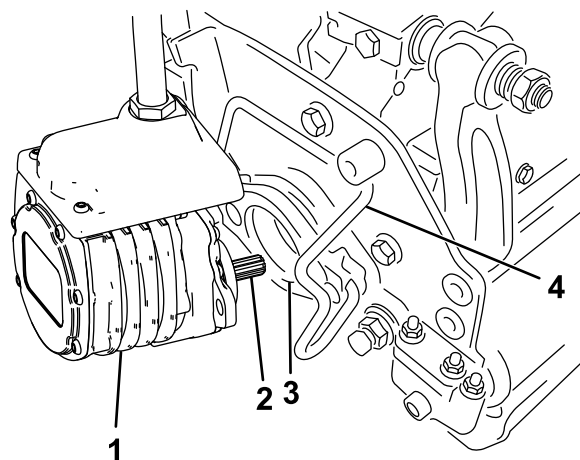

Figure 55
6. Coat the spline shaft of the cutting unit motor with clean grease (Figure 55).
7. Insert the motor into the left side of the cutting unit (as viewed from the operator's position) and pull the motor retaining bar on the cutting unit toward the motor until you hear a click from both sides of the motor (Figure 55).